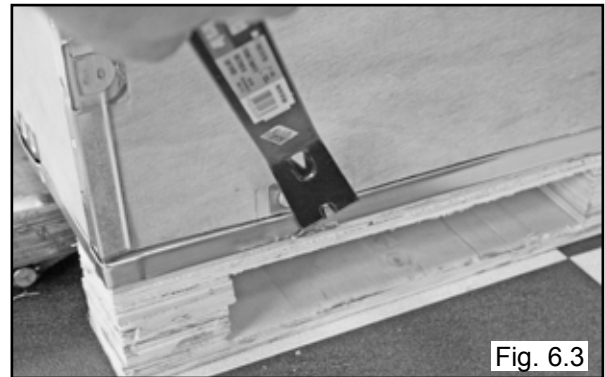

Fig. 6.3
1. Using a crow bar or pry bar, locate the metal tabs and pry open the tabs and or staples. (See Fig 6.3)